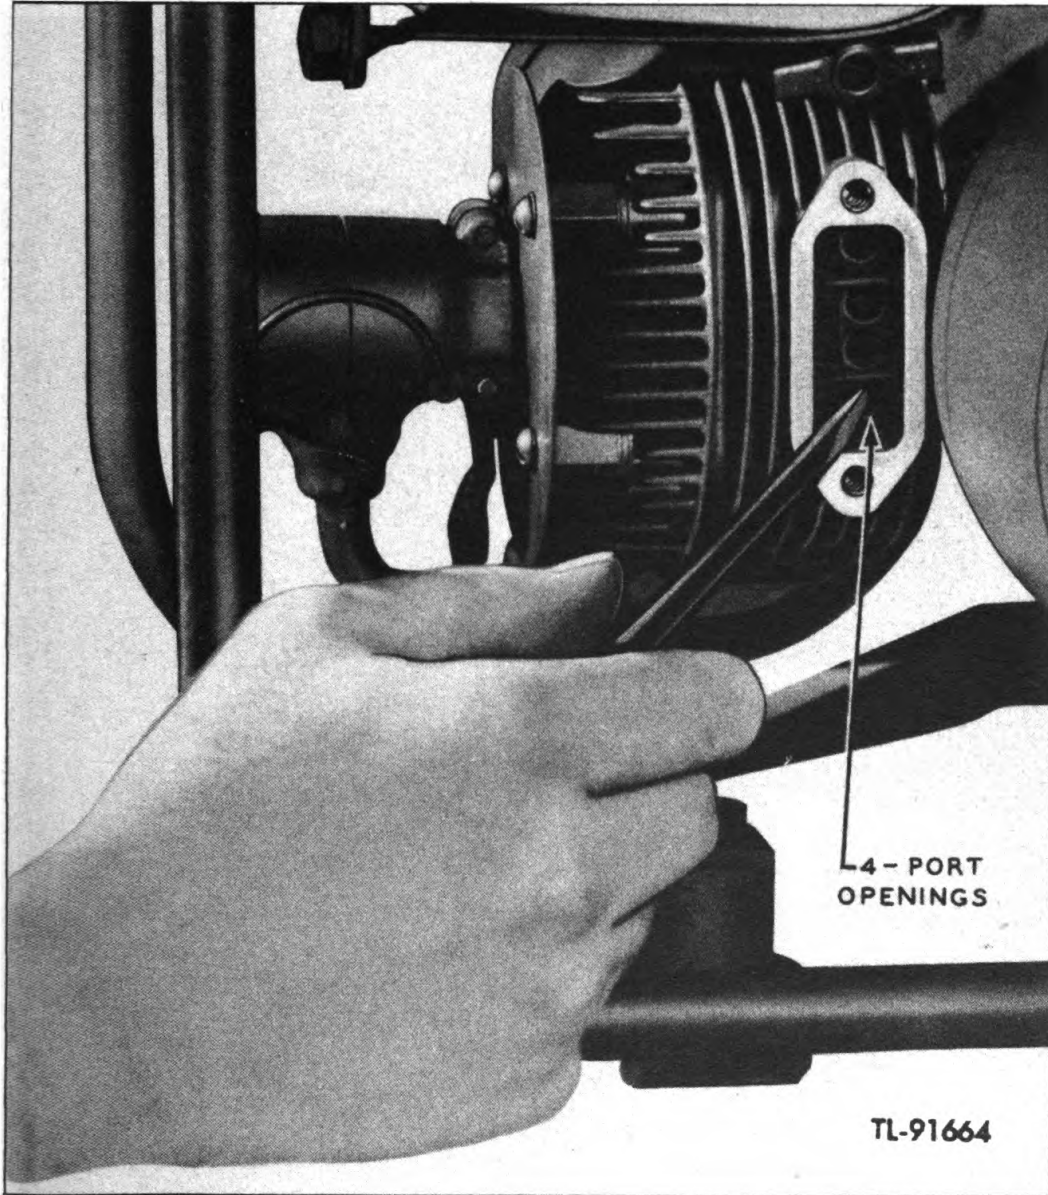

Figure 16. Carbon removal, exhaust ports
(1) **Exhaust ports.** To clean out the exhaust port holes (fig. 16), remove the muffler. Turn the engine over by hand until the piston reaches bottom dead center. Clean out the port openings, using the combination screwdriver and socket wrench furnished with the equipment or a small screwdriver ground down to fit. Turn the engine over several times to permit carbon chips an opportunity to pass out of the engine before reinstalling the muffler.